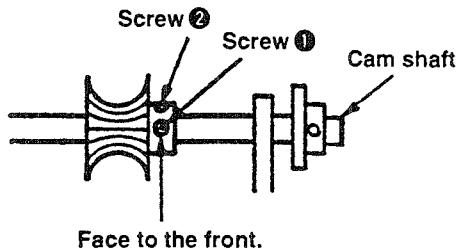
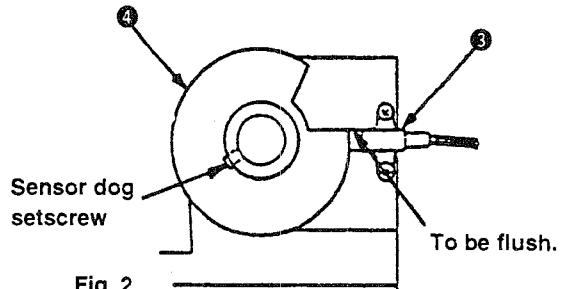

Fig. 1
Fig. 2
<p>(1) Turn the knob of spinner oscillating arm motor until screw ① of the worm gear faces to the front. (Fig. 1)</p> <p>(2) Loosen sensor dog setscrew ④ .</p> <p>(3) Turn the sensor dog so that the upper face of switch ③ is flush with the lower part of the recess of sensor dog ④ . (Fig. 2)</p> <p>(4) Bring sensor dog ④ to the center of the slit of switch ①. (Fig. 3)</p> <p>(5) Tighten sensor dog setscrew ④ .</p> <p>(6) When the adjustment is completed, turn the knob of spinner oscillating arm motor to return the button carrier to the position of origin.</p>